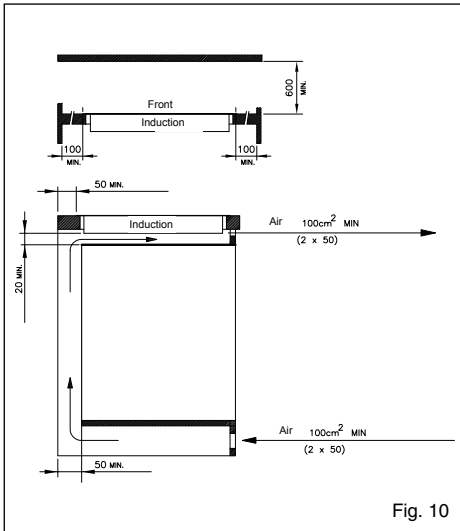

Fig. 10
- allow air passages as shown in the figure 10.